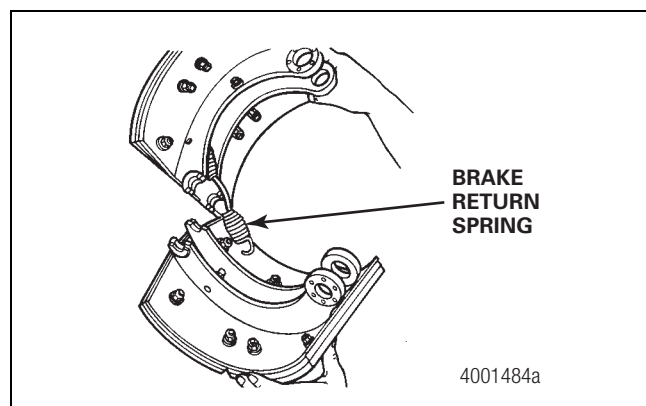

Figure 5.26
1. If removed, use a driver to install a new bushing into the brake shoe. The brake shoe may use a single or double bushing. When correctly installed, the top of the bushing is even with the outer surface of the shoe. After bushing installation, ream the inside diameter (ID) of the bushing to 1.250-1.257-inches (31.75-31.93 mm), if required.
2. Connect the return spring to the brake shoes. Install the brake shoes onto the spider in the same position from which the shoes were removed. Figure 5.26.